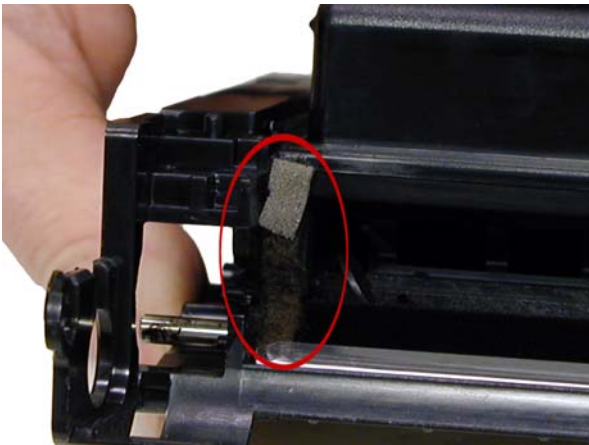

Figure 21
18) Clean the doctor blade and foam seals. See **Fig. 21**